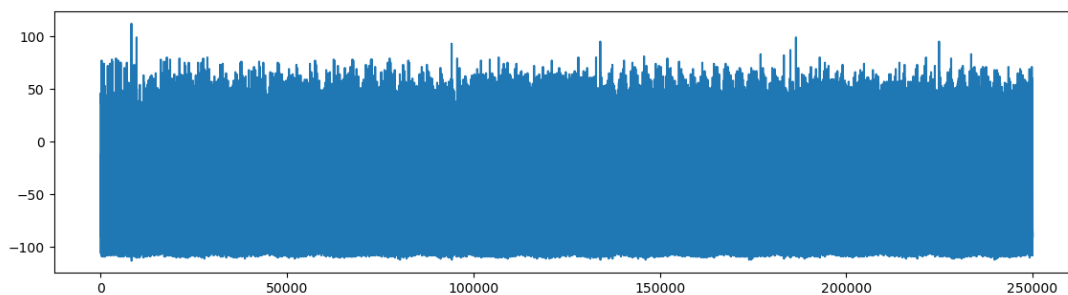

Figure 3: A power measurement from a microcontroller with peaks indicating differences in code execution [7].
SCA measurements are collected from voltage supply lines, in-line power resistors, electromagnetic (EM) emissions, and timing information. Further discussion on collecting SCA measurements from embedded devices can be found in published research articles [3]. In an SCA attack, a series of measurements are often collected with a fixed unknown key and varying known cipher inputs. An example of a power measurement from a cryptographic implementation is shown in **Figure 3**.